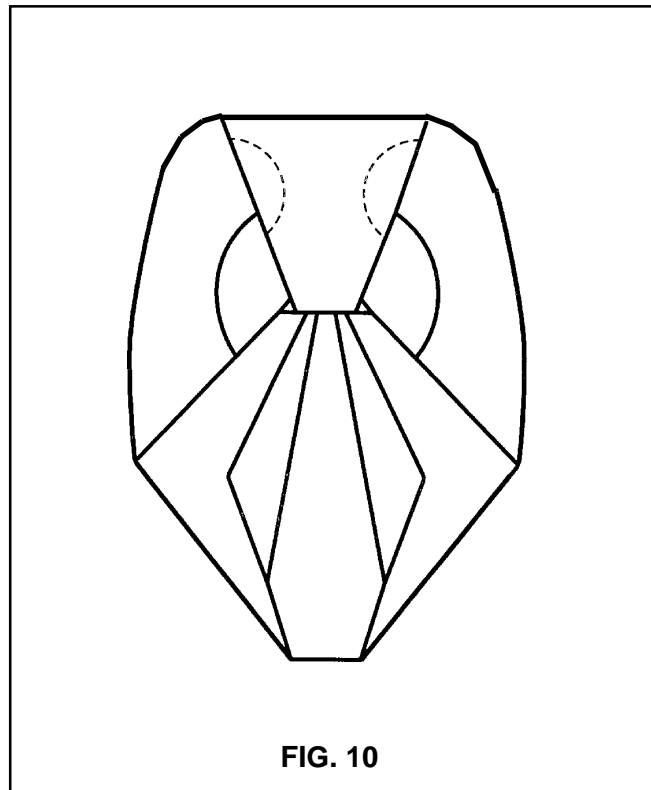

FIG. 10
14. Using the packing paddle push the fanned out pilot chute fabric under the bottom closure flap (ensure fabric is over bridle and not under it) to leave a clean and tidy pack job. Seal the reserve container and log the work done on the packing data card and in your rigger's logbook. Place the completed data card in the pocket provided on the underside of the reserve top flap cover. Secure the top flap cover over the top flap by inserting the tongue on each side under the top flap and insert the bottom of the top flap into the protector pocket (**FIG. 10**).